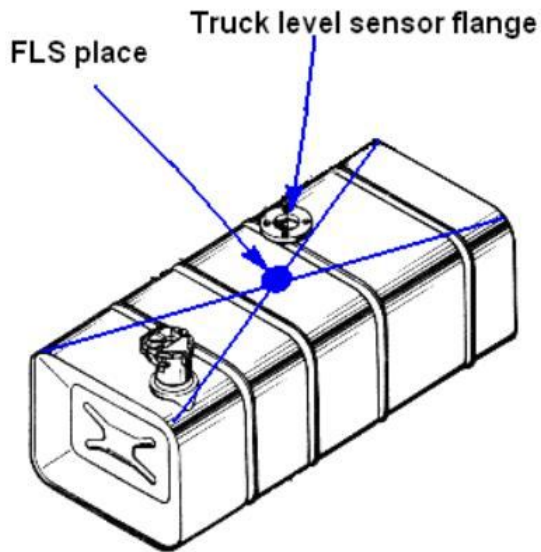

Fig. 3. Recommended installation scheme
1. For better measurement the best place for FLS installation is geometric center of the tank (see Fig. 3). Truck level sensor is usually mounted not in the center.
Drill a central hole for sensor installation according to fig. 3. It is better to start from central hole, after that insert sensor in a hole and mark places for 5 screws. The screws are placed asymmetrically! We use standard size SAE-5 PIN – see dimensions in Appendix 1).